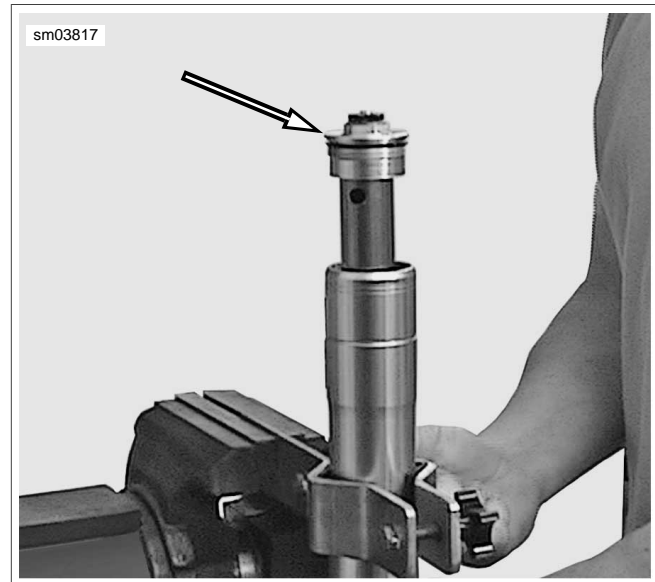

Figure 2-91. Fork Cap: XB All Models
- See Figure 2-91. Loosen the fork cap and pull up exposing the entire preload and rebound assembly.